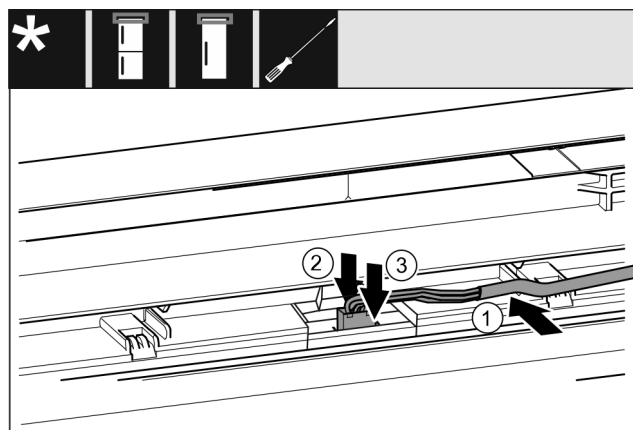

Fig. 46 Fridge/freezer combinations / freezers / refrigerators\*
- ▶ Insert the cable Fig. 46 (1) into the guide in the top door.\*
- ▶ Push the latching tab Fig. 46 (2) backwards.\*
- ▶ Engage the plug Fig. 46 (3)\*